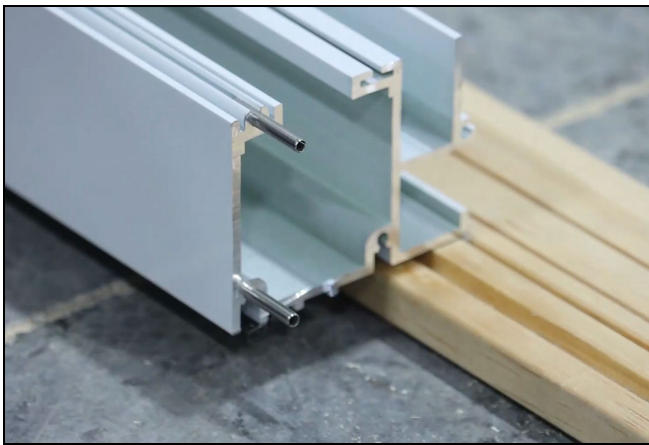

Figure 76
3. Tap the pins in the 2 exterior holes in the aluminum track. Pins should be inserted approximately 1/3 of the way. See Figure 76.